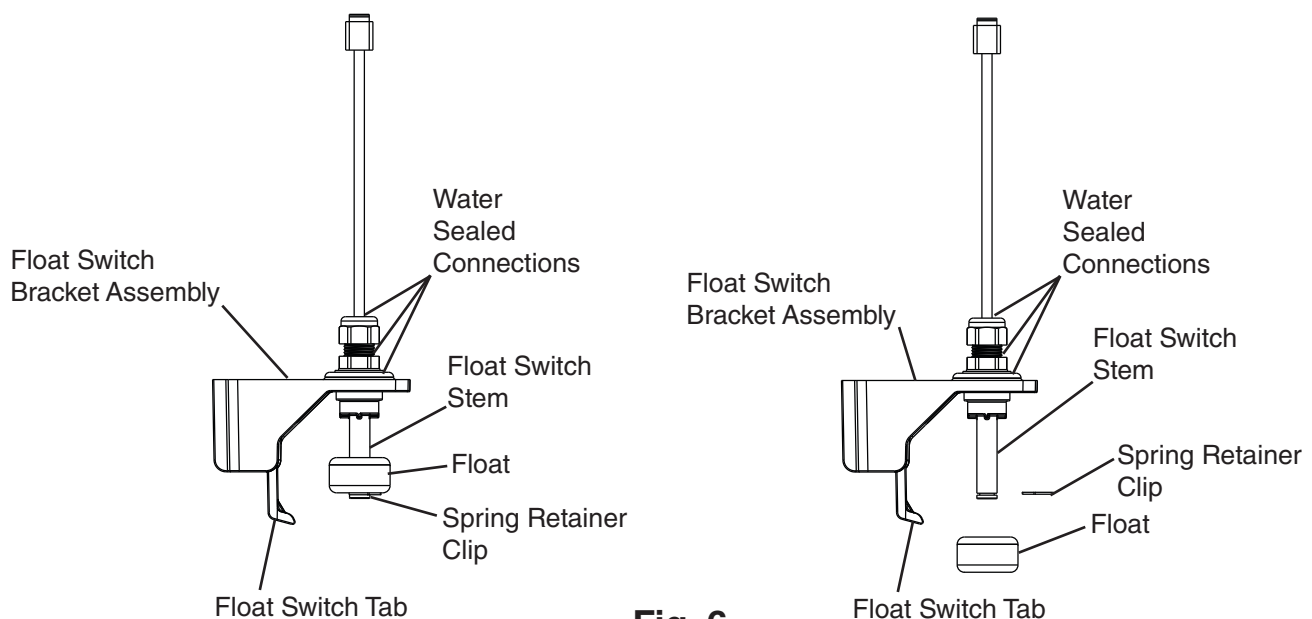

Fig. 6
- 5) Remove the spring retainer clip from the float switch rod, then remove the float. Be careful not to bend the spring retainer clip excessively when removing it. See Fig. 6.